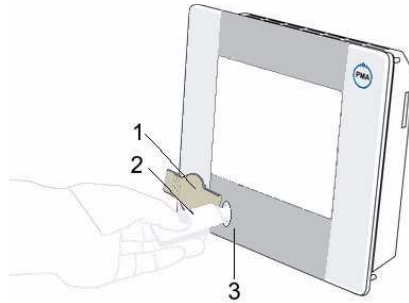

Fig. 20: Using the USB-Stick
3. **Insert the USB stick:** Lift the cover of the USB connection (Fig. 20/ Pos.1) on the front of the device and turn it to the side. Now insert the USB stick (Fig. 20/ Pos. 2) in the connection (Fig. 20/ Pos.3).